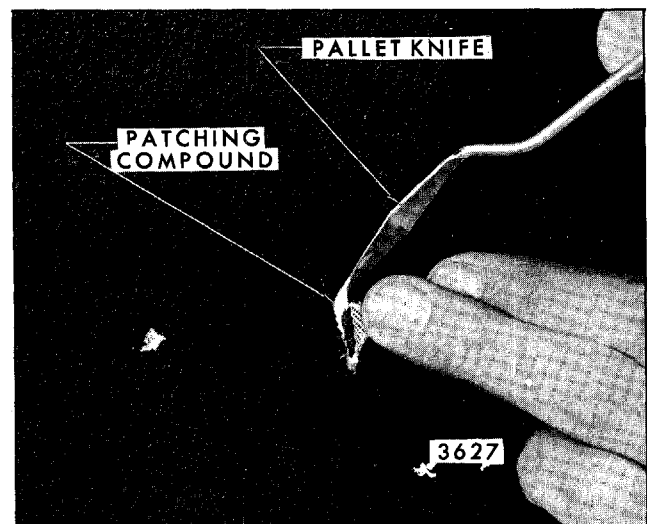
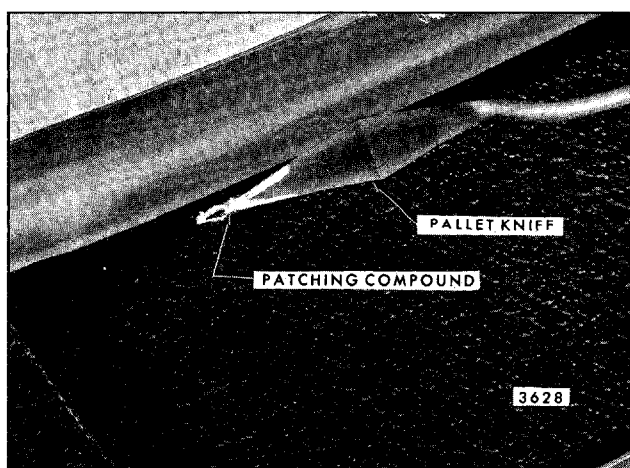

Fig. 8-54-Vinyl Repair Patching Compound Application
Fig. 8-55-Vinyl Repair Patching Compound Application
3. On damaged areas where no trimming was necessary, apply vinyl patching compound to edges of area as shown in Figure 8-54. Where trimming was required, apply compound to area being repaired and trowel flush with adjacent surface as shown in Figure 8-55. Remove any excess material (compound) with clean cloth.